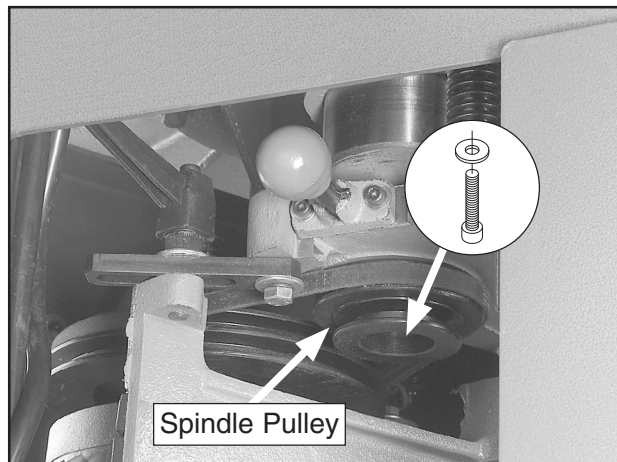

Figure 60. Spindle pulley.
7. Remove the V-belt from both pulleys, then remove the cap screw and flat washer that secure the spindle pulley (see **Figure 60**).